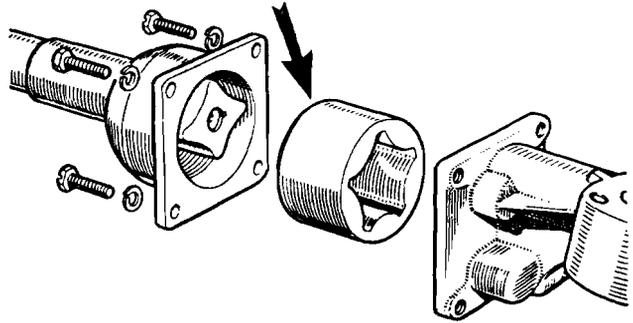

Fig. A.27
- (1) Lubricate all parts with clean engine oil.
- (2) Ensure that the outer rotor is installed in the pump body with its chamfered end (see Fig. A.27) at the driving gear end of the pump.
- (3) After reassembling check the pump for freedom of action.